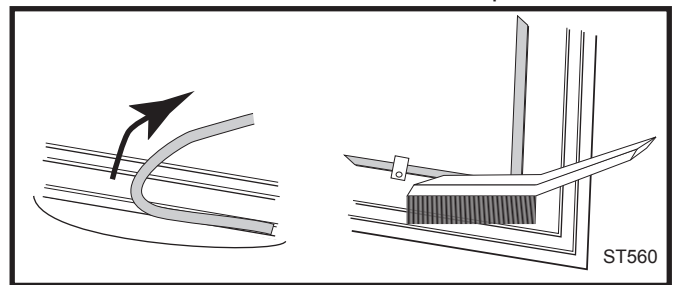

Fig. 37 Remove gasket, then clean channel with wire brush.
1. Remove the existing gasket by grasping an end and pulling firmly. (Fig. 37)